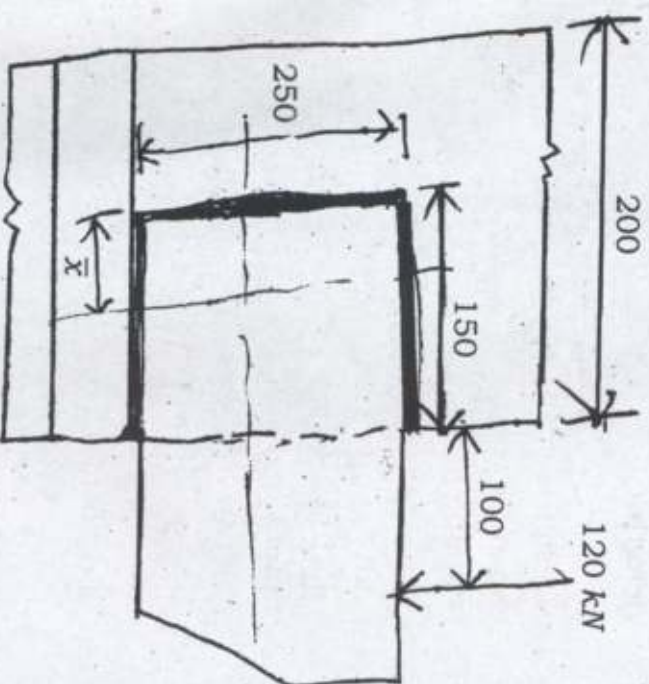

figure 1
- (b) A bracket plate is welded to the flange of a column ISHB 200 as shown in figure 1. Check the safety of the joint.